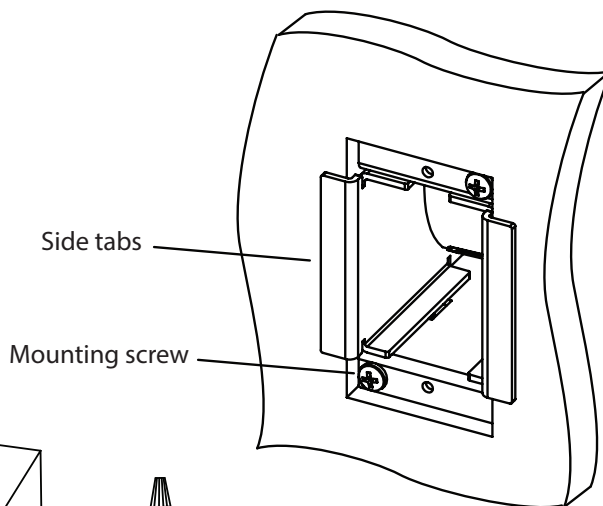

Fig. 4
14. While keeping the **side tabs** pressed against the mounting surface, secure the Minibox to the mounting surface by tightening the two **mounting screws**. (Fig. 4)